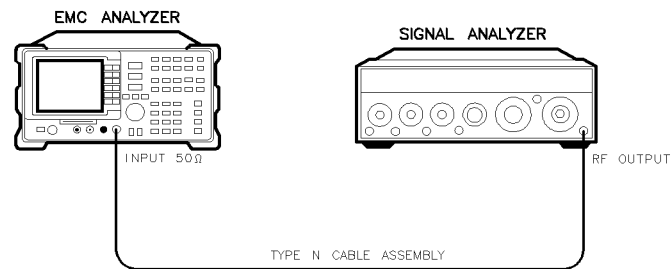

Figure 2-6. Noise Sidebands Test Setup
- Connect the equipment as shown in Figure 2-6.